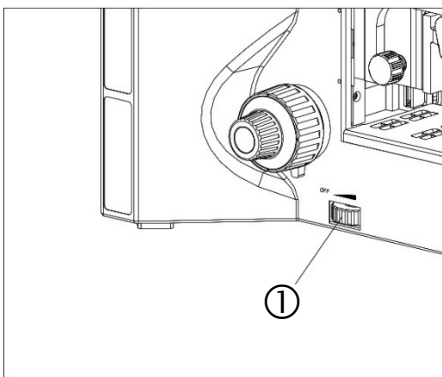

Fig. 11
Turn the reflected light adjustment wheel ① (Fig. 11) until the illumination is comfortable for observation.